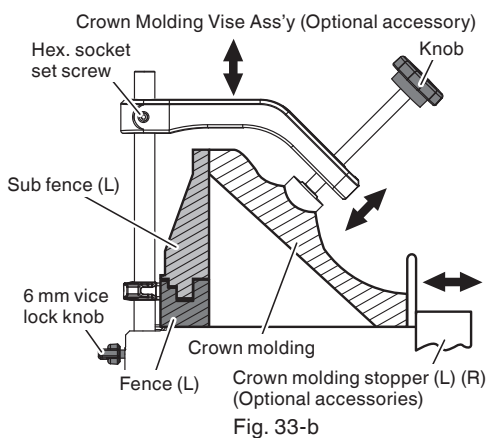

Fig. 33-b
- (2) Position crown molding with its WALL CONTACT EDGE against the sub fence and its CEILING CONTACT EDGE against the crown molding stoppers as shown in Fig. 33-b.